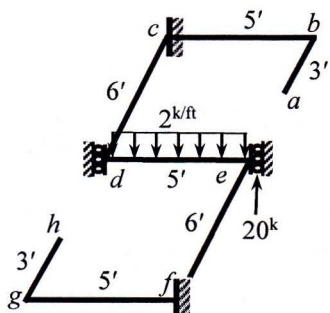

Fig. 1
- Use Stiffness Method to calculate the unknown deflections at joint *d* and *e* of the grid *abcdefgh* loaded as shown in **Fig. 1** [Given: $EI = 30 \times 10^3$ k-ft²].